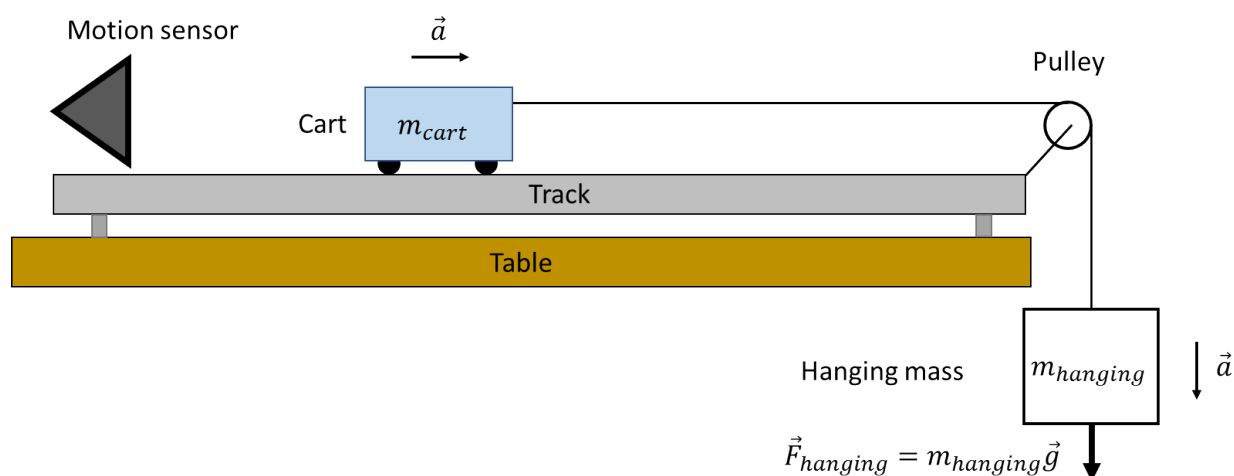

Figure 1: Sketch of the track, table, and cart.
1. Check that the track is level by making sure that the cart does not roll spontaneously. The experimental set up is shown in Figure 1.